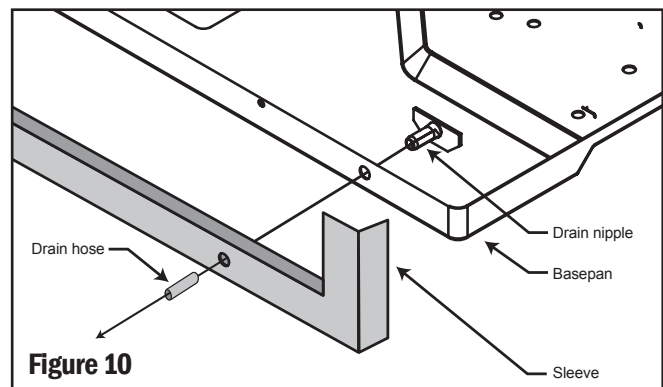

Figure 10
- STEP 1 Find the drain rubber plug on the rear of the basepan and remove it. (See Figure 10).